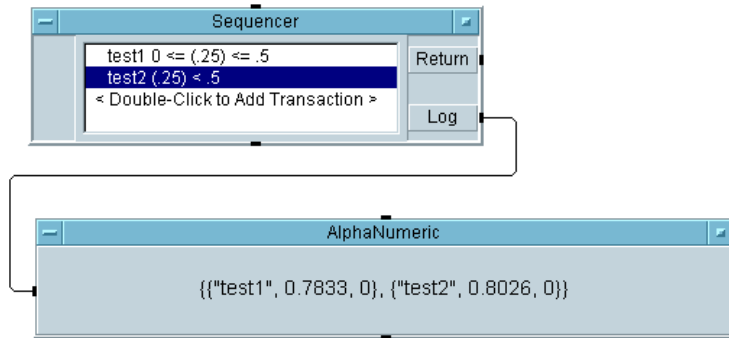

Figure 9-3. A Simple Sequencer Example
4. Run the program and note the two records of data from the two tests. Save the program as `seq1.vee`. The program should look like Figure 9-3.